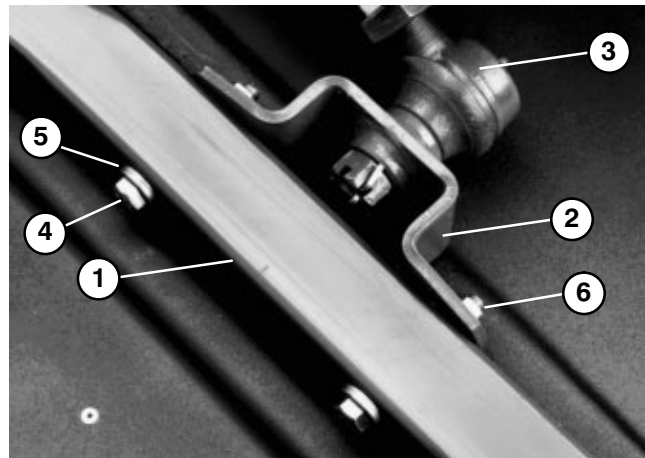

Figure 6
4. Secure ball joint mounts to each castor arm with (2) 7/16 - 14 x 3" lg. capscrews, 15/32" I.D. x 59/64"
O.D. flatwashers and 7/16 - 14 flange nuts. Flatwashers to be positioned to outside of castor arm (Fig. 6).